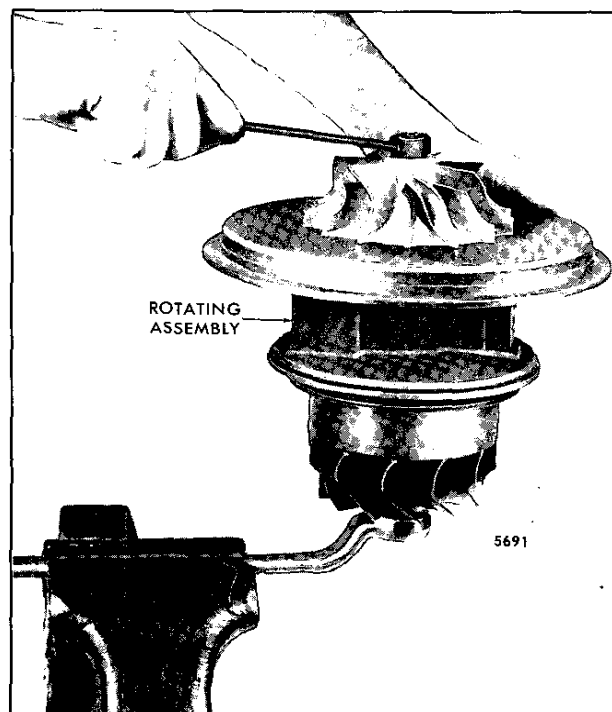

Fig. 4 - Removing Compressor Wheel Lock Nut
5. With the turbine wheel lug of the rotating assembly in a 1" wrench (Fig. 4), remove and discard the compressor wheel lock nut.